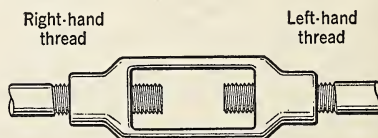

FIG. 286. The turnbuckle.
5. The turnbuckle of Fig. 286 acts upon one rod which has a right-handed screw; it also acts upon another rod which has a left-handed screw. If each rod has 12 threads to the inch, how much is the space between the ends increased or decreased by one complete turn of the turnbuckle?